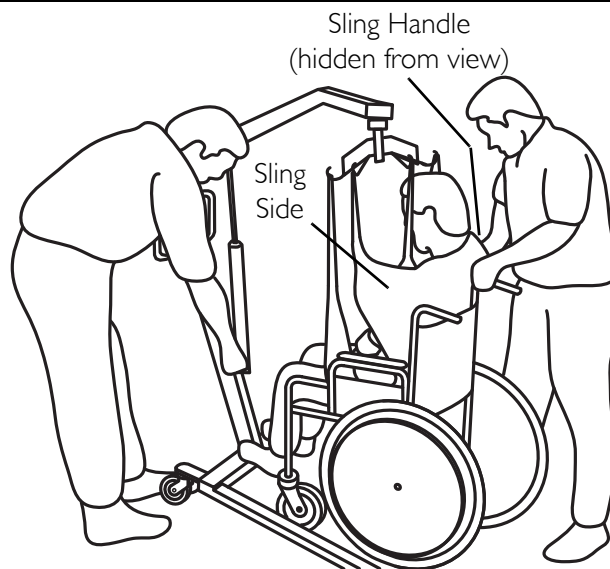

FIGURE 10.1 Transferring to a Wheelchair
NOTE: For this procedure, refer to FIGURE 10.1 on page 34.
3. Lock the rear wheels to further prevent movement of the chair (Detail "A" of FIGURE 10.1).
4. Position the patient over the seat with their back against the back of the chair (Detail "B" of FIGURE 10.1).
6. The assistant behind the chair pulls back on either the handle or sides of the sling to place the patient into the back of the chair. (Detail "C" of FIGURE 10.1).